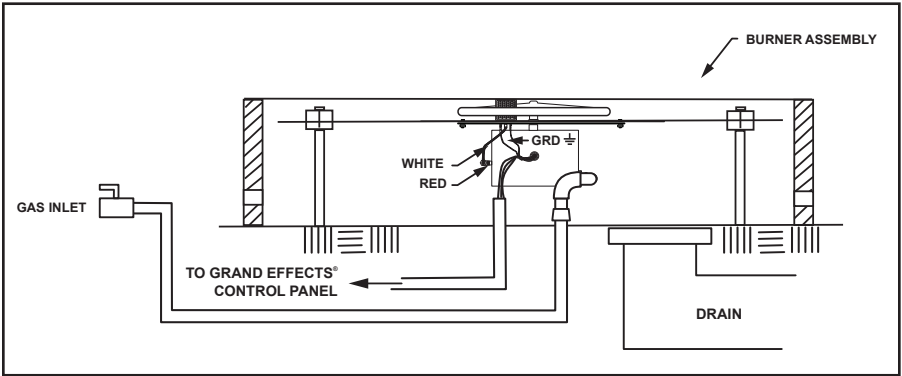

Figure 9. Natural Gas
10. Install the burner assembly as shown in Figure 9. The burner assembly must be centered and supported by the support plate.